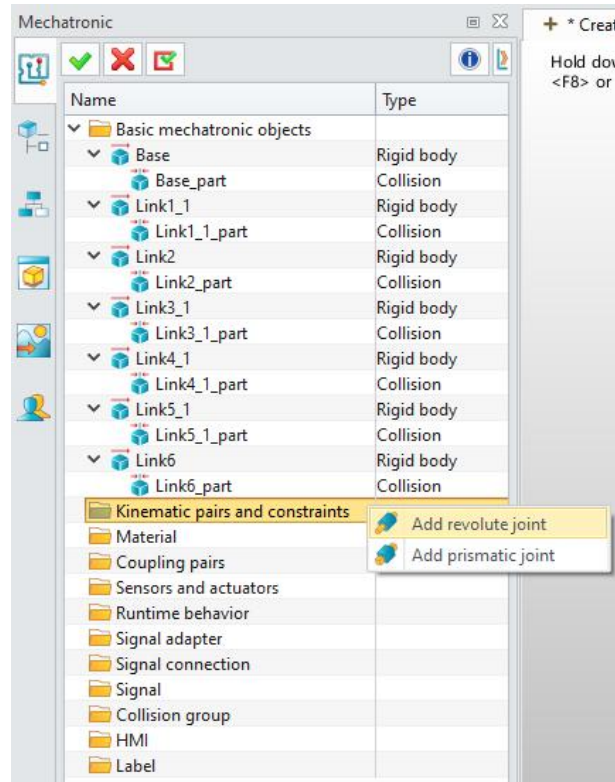

Figure 8-16: Add Revolute Pairs
- In the "Mechatronic" window, click "Kinematic Pairs and Constraints". Right-click and select "Add Revolute Joint". (Figure 8-16)